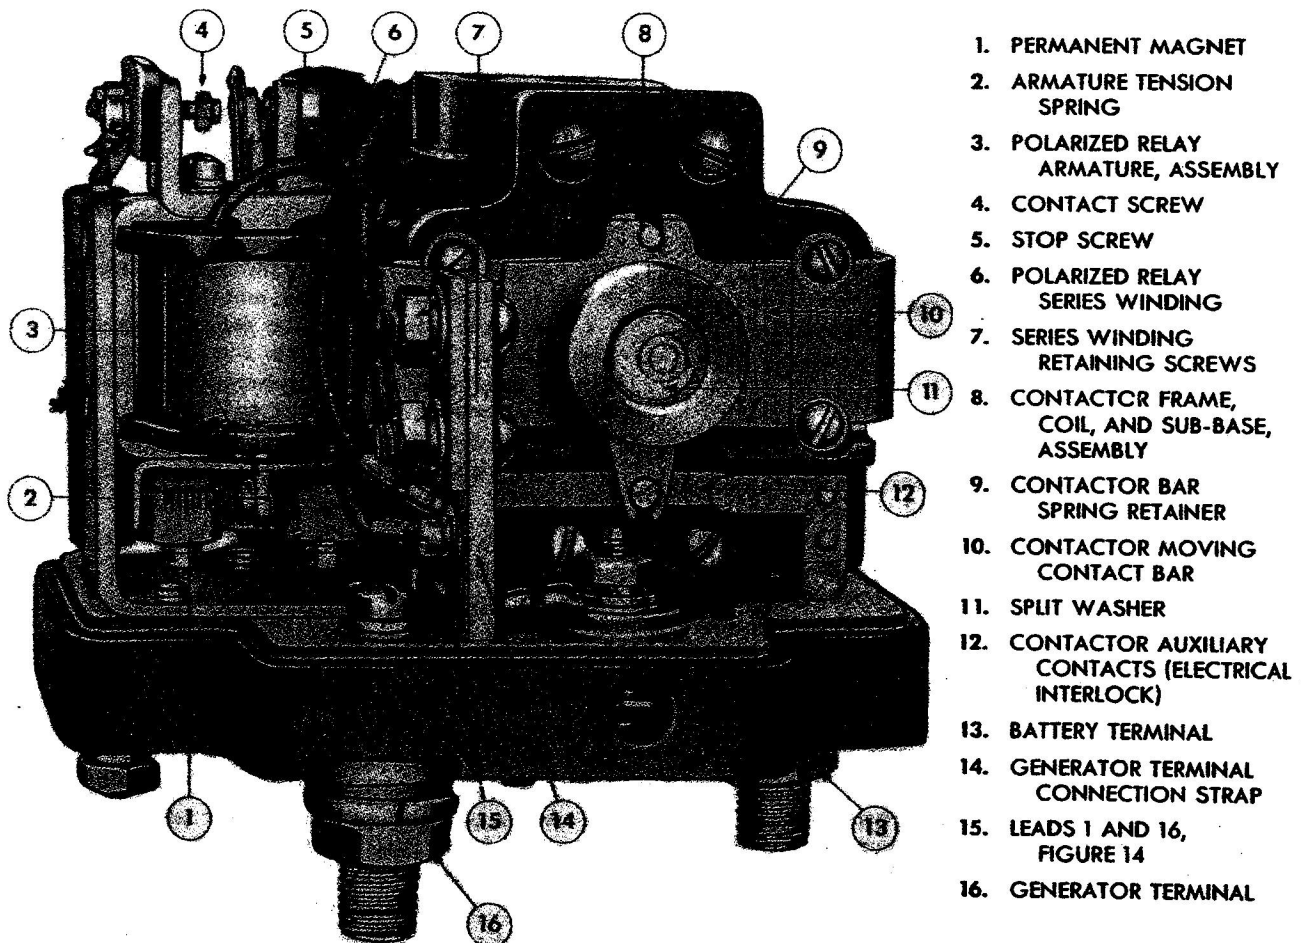
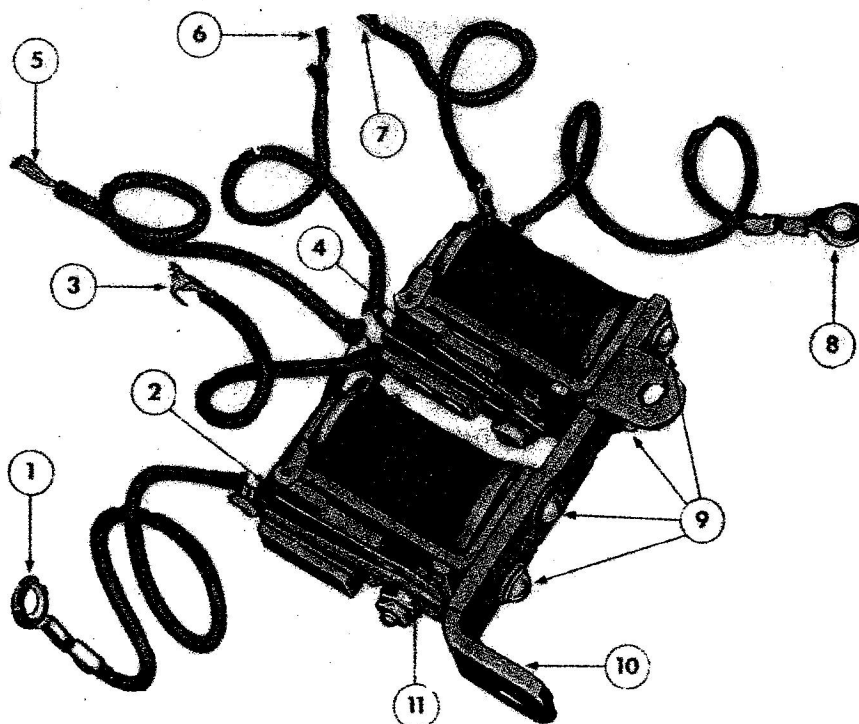

Figure 3—Polarized Relay and Magnetic Contactor Assemblies
Figure 4—Auxiliary (Telephone-Type) Relay Assembly
a. MAIN ASSEMBLIES. (See figures 3 and 4.)—Four main assemblies comprise the generator control relay (differential) switch. These are the auxiliary relay, contactor, polarized relay, and base assemblies. The auxiliary relay assembly consists of two telephone-type relays which prevent the differential-voltage winding of the polarized relay from overheating. (See figure 4.)
b. POLARIZED RELAY ASSEMBLY. (See figure 3.)—The polarized relay consists of a square spool containing three windings, a permanent magnet (1) for polarizing the relay assembly, an armature (3) mounted on jewel bearings, contact screw (4) and stop screw (5) for controlling the movement of the armature. The inner winding on the square spool is the differential-voltage winding, connected between the generator positive terminal and the battery positive terminal through
d. AUXILIARY RELAY ASSEMBLY. (See figure 4.)—This assembly consists of two telephone-type relays mounted on a bracket. Each telephone-type relay in the assembly has two contacts in parallel for added reliability in completing the low voltage differential circuit. The bottom relay (11) is normally open and is in series with a rectifier, mounted in a well in the base. The upper relay (4) is normally closed and is connected